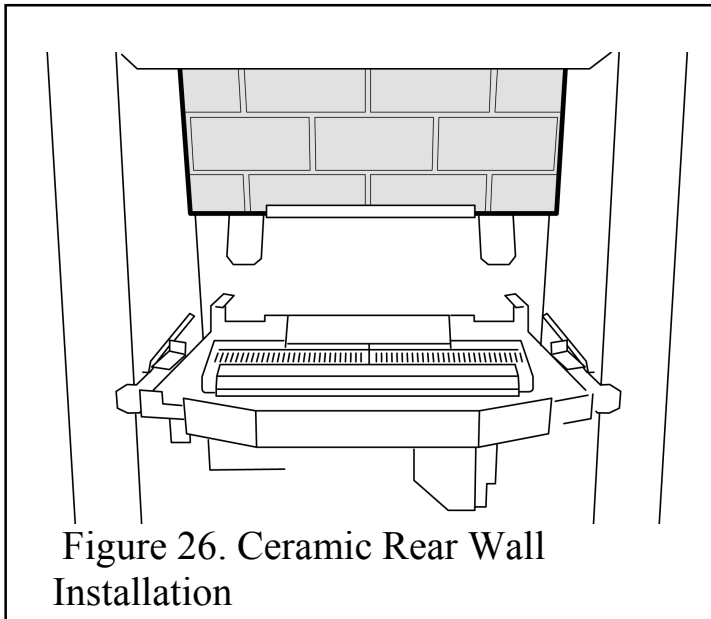

Figure 26. Ceramic Rear Wall Installation
1. Fit the rear ceramic wall support bracket to the rear of the convection box using two screws. The “L” shaped section should be on top with the two side tags underneath. See figure 26.
2. Fit the ceramic rear wall inside the “L” bracket on the back face of the burner compartment. Push the ceramic wall flat against the back face of the burner compartment. See figure 26.